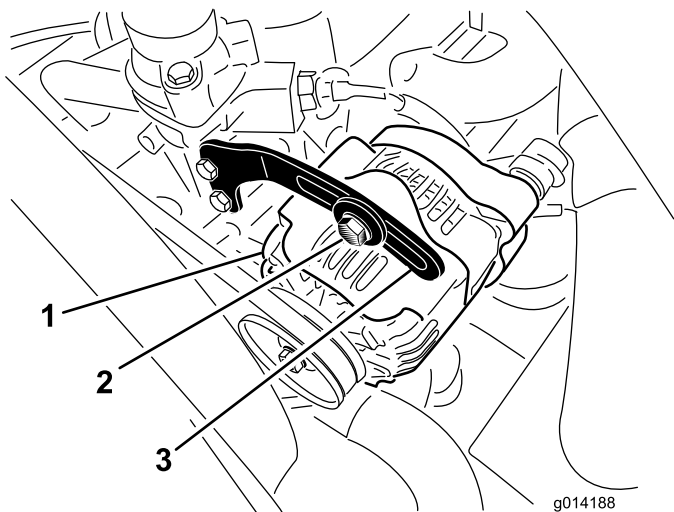

Figure 57
2. Check the tension of the alternator belt by depressing it (Figure 57) midway between the alternator and the crankshaft pulleys with 22 lb (10 kg) of force.
3. Loosen the bolt securing the brace to the alternator (Figure 57), and the alternator pivot bolt.